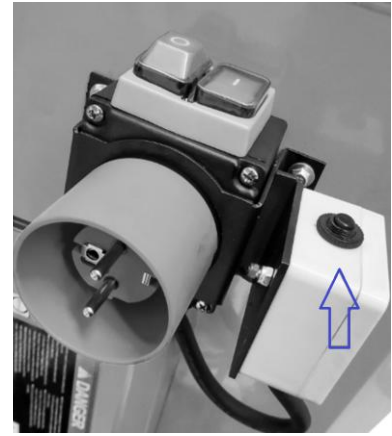

Fig. 8
- Once cooled, press the reset button to resume operation (see Fig. 8).